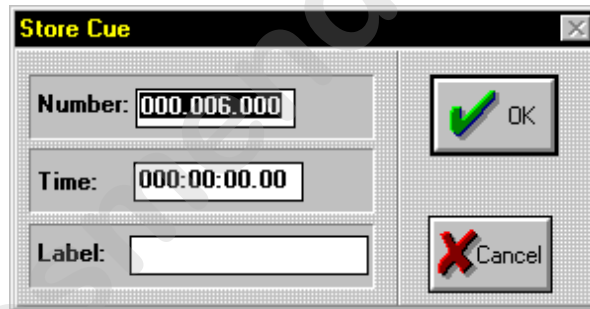

Figure 8.10. Store Cue Dialogue Box
1. Press the <CUE> button in the MEMORY group. This will bring up the **Store Cue** dialogue box. Refer to Figure 8.10.